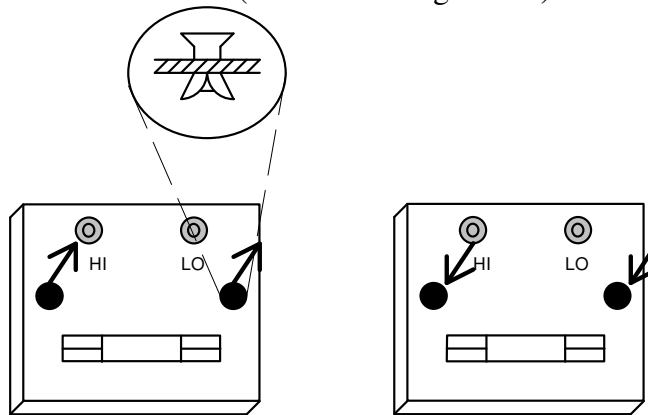

Figure 2-2
- If a module is presently installed pull the two clamps up and remove the module (Refer to Figure 2-2, below).